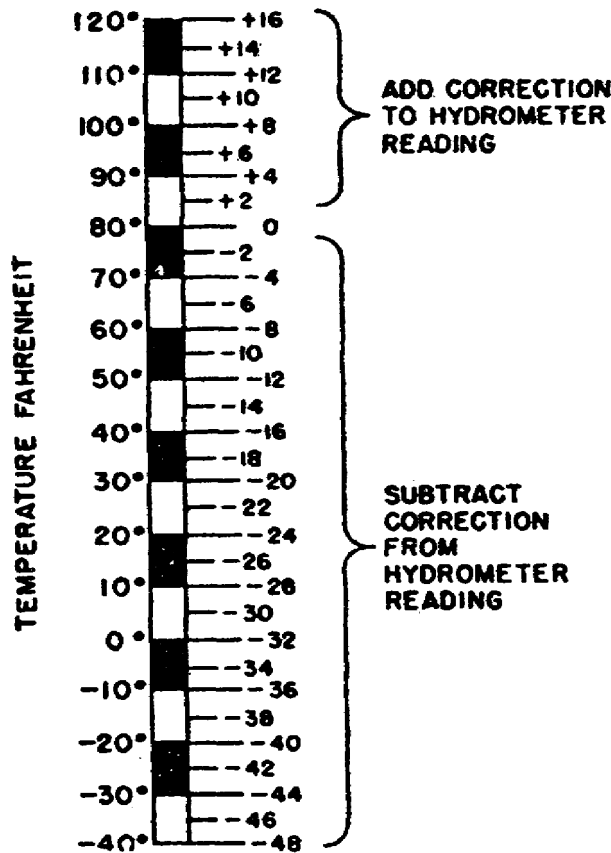

Figure 22. Correction chart.
f. In order to correct for temperature changes, test both the gravity and temperature of the electrolyte. Some hydrometers have a built-in thermometer so you can do both at the same time. For each 10° of temperature variation from 80°, change the gravity reading 4 points (fig 22). Add points to gravity readings when the electrolyte is above 80°; take points away when the temperature is below 80°.